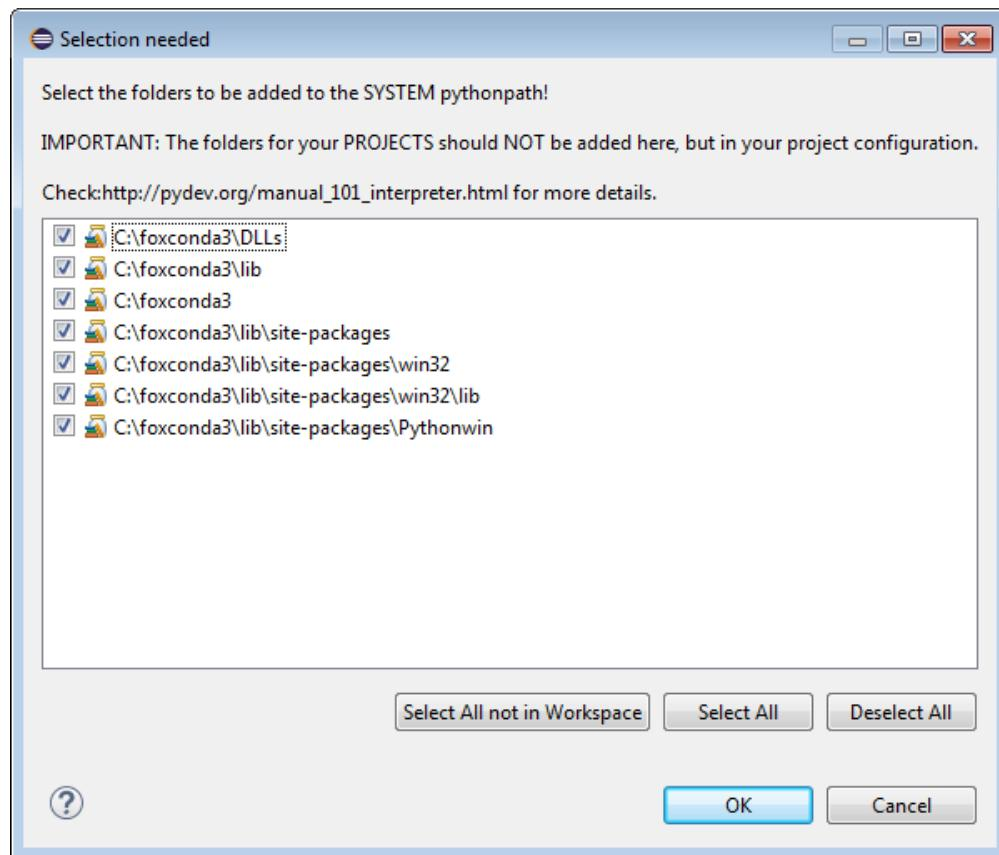

Fig. 11.8: Adding the PYTHONPATH
4. In menu Selection needed do not change anything and click **OK**, shown in Fig. 11.8,